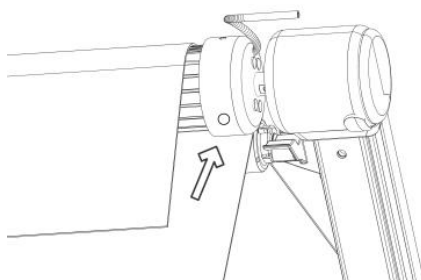
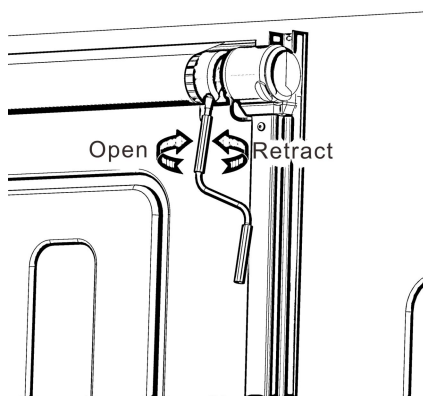

Figure D6
Figure D7
4.4 A manual joystick hole is provided on the awning motor (Figure D6).In the event of a power outage or malfunction, remove the decorative cap on the end cover, insert the backup crank, and rotate to extend or retract the awning.(Figure D7)